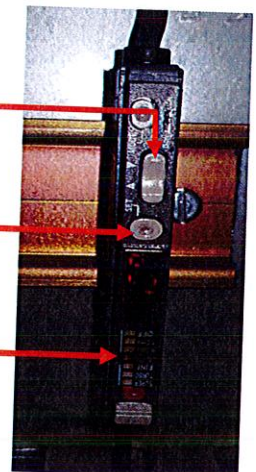

Figure 7: Sensor control buttons
6.14. How to set the sensor, refer to figure 7 for sensor controls.